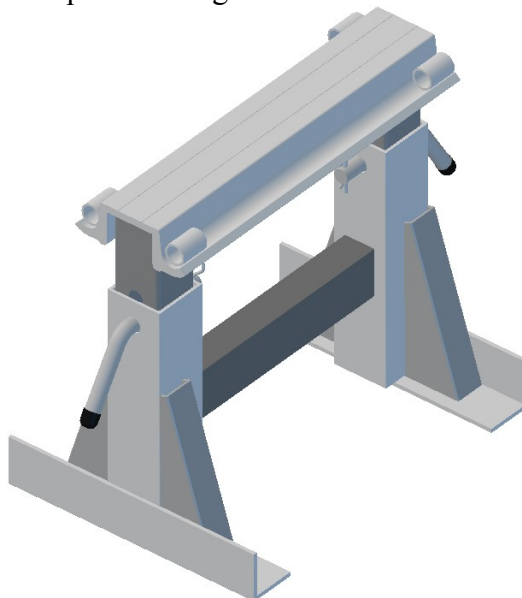

Figure 2 – Illustrated view of Adjustable Ramp Stand, shown w/o Adjustment Pins/Rods
- (Qty: 2) Adjustable ramp stands, as depicted in Fig. 2: